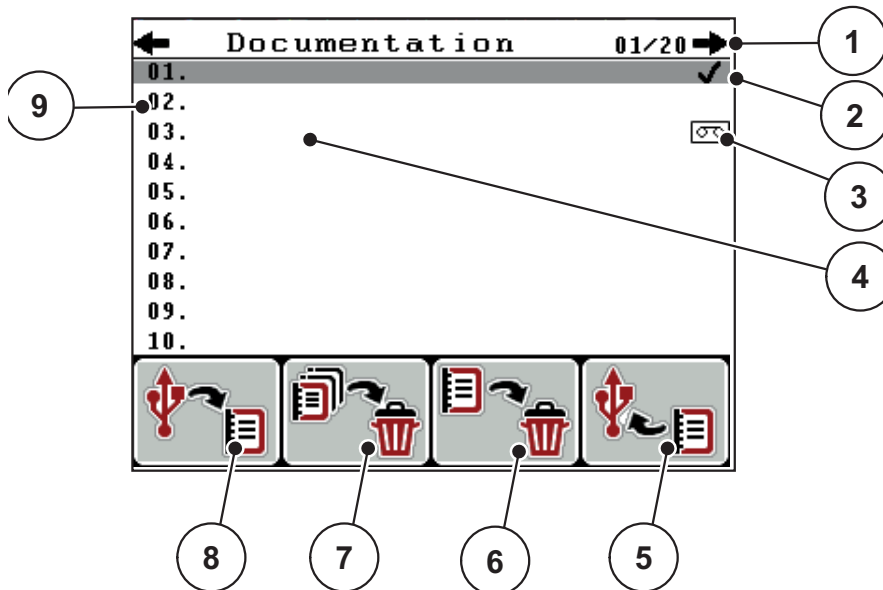

Figure 4.18: Documentation menu
2. Press **F4** function key (see Figure 4.18).
2. Press **F1** function key (see Figure 4.18).
3. Press the **F3** function key below the **Delete** symbol (see Figure 4.18).
2. Press the **F2** function key below the **Delete all** symbol (see Figure 4.18).